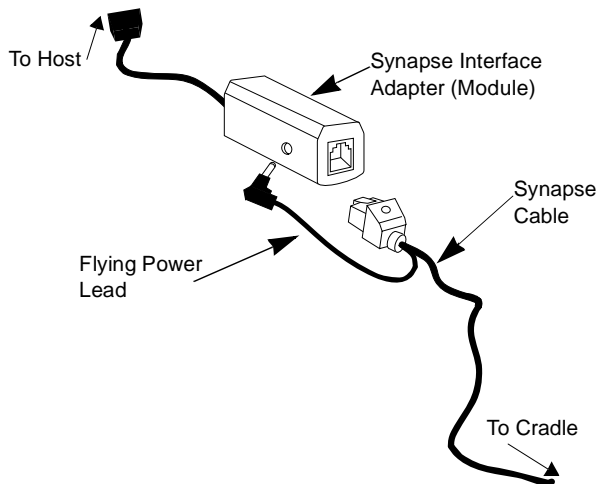

Figure 2-3. Synapse and Adapter Cable
4. The Synapse cable has a flying power lead. Connect this lead to the receptacle in the Synapse Interface adapter, as shown in Figure 2-3. See the Synapse guide for details.